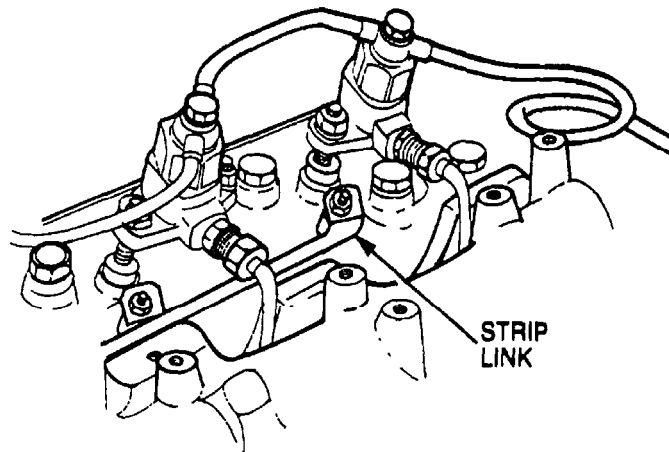

Figure 145 Glow Plug Removal
- b. Remove the nuts securing the electrical strip link to the glow plugs and remove the link (Figure 145).